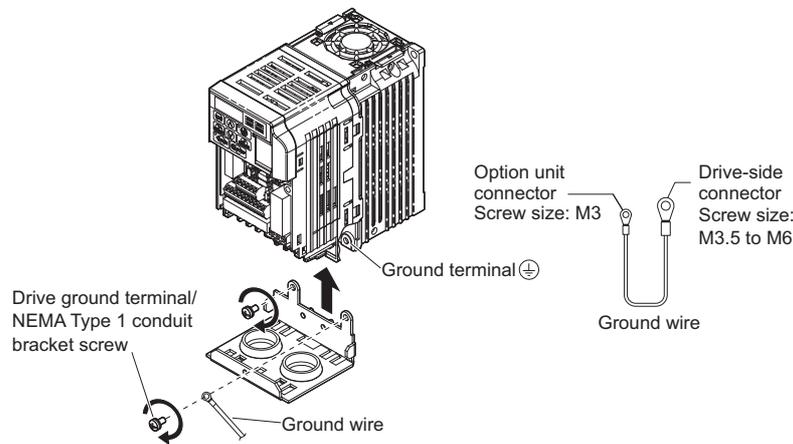

Figure 12 Reattach the NEMA Type 1 Conduit Bracket and Connect the Ground Wire for models CIMR-V□BA0001F to BA0003F, 2A0001F to 2A0006F
- On NEMA Type 1 enclosure models (CIMR-V□BA0001F to BA0003F, 2A0001F to 2A0006F), the screw for the drive ground terminal also acts as one of the screws that attaches the NEMA Type 1 conduit bracket to the drive. Reattach the NEMA Type 1 conduit bracket according to Figure 12 and connect the drive-side of the ground wire to the drive ground terminal.